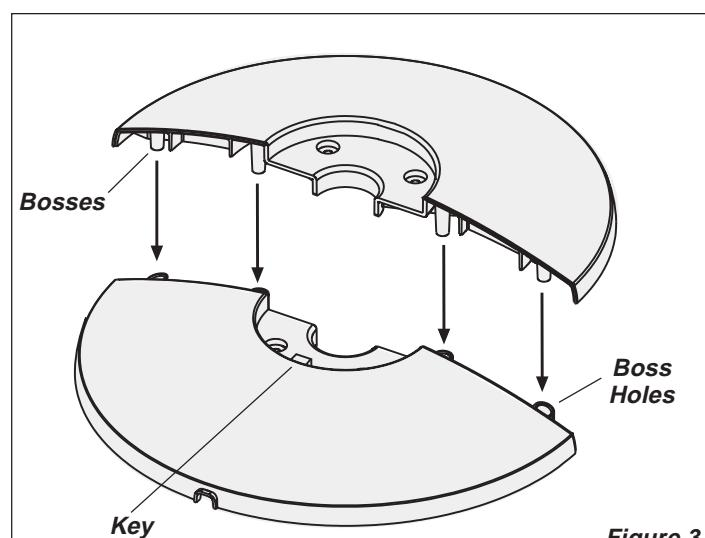

Figure 3
- Assemble the Base by interlocking the **Bosses** into the **Boss Holes**. (Figure 3)